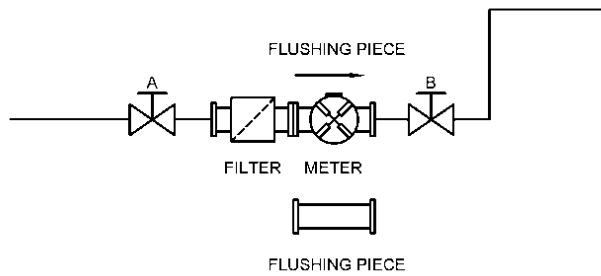

Figure 14 – Flowmeter setup without bypass piping arrangement and flushing piece.
1. Close valves A and B, as shown in Figure 14.